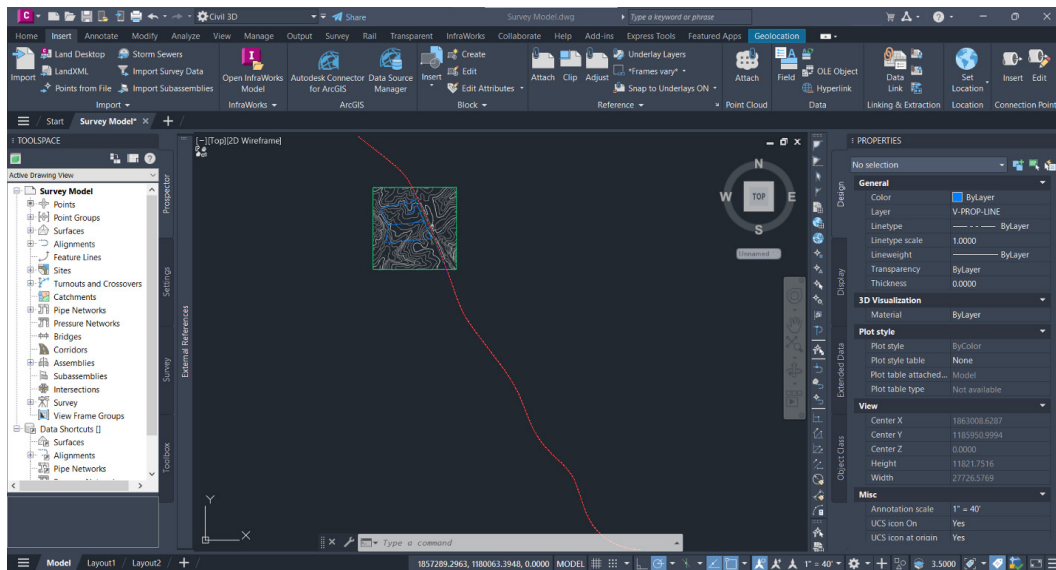

Figure 5.15 – Attach a point cloud to Civil 3D
1. First, let's understand how Civil 3D refers to point clouds. Civil 3D is a detailed program with layers of functionality within it that prohibits it from working with large files, similar to Autodesk ReCap. So, what Civil 3D does is look at point clouds similar to XREFs where they are attached to the drawing, but not actually in the drawing, acting as a reference and sampling as you work with it. So, let's navigate on the ribbon to the **Insert** tab and look for the **Attach** option under **Point Cloud**, as shown in *Figure 5.15*.